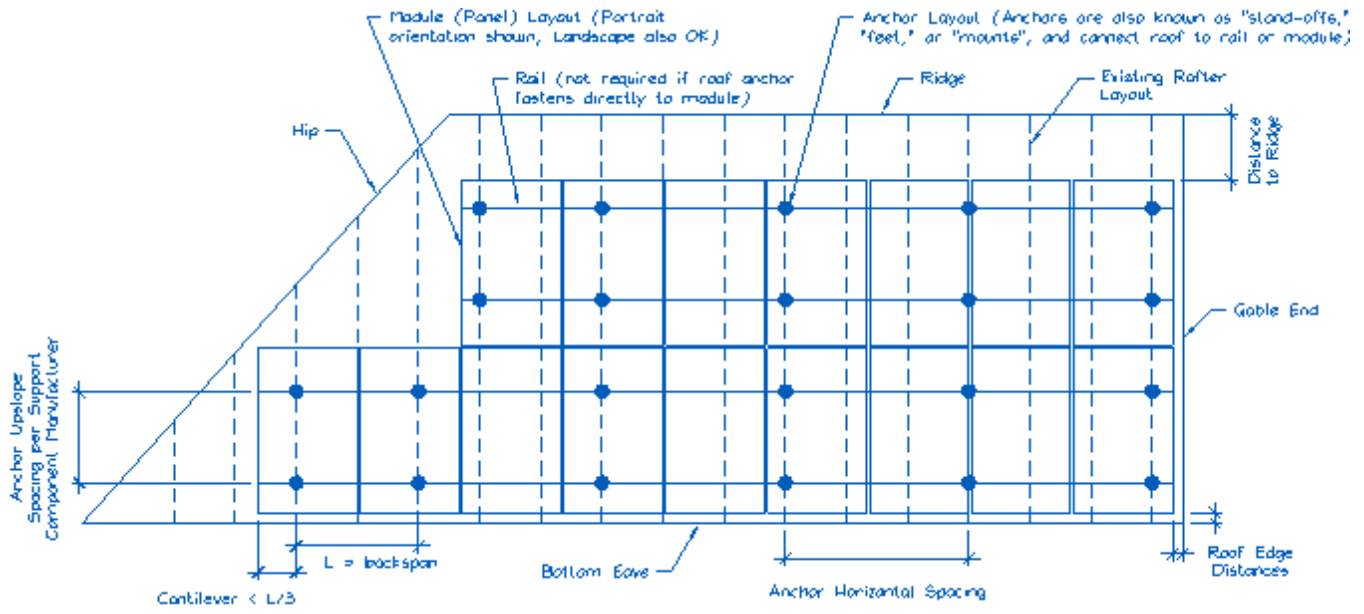

Figure 2. Sample Solar Panel Array and Anchor Layout Diagram (Roof Plan).
E. Is a roof plan of the module and anchor layout attached? (see Figure 2)
- 1) Proposed anchor horizontal spacing (see Figure 2): _____' - _____"ft-in